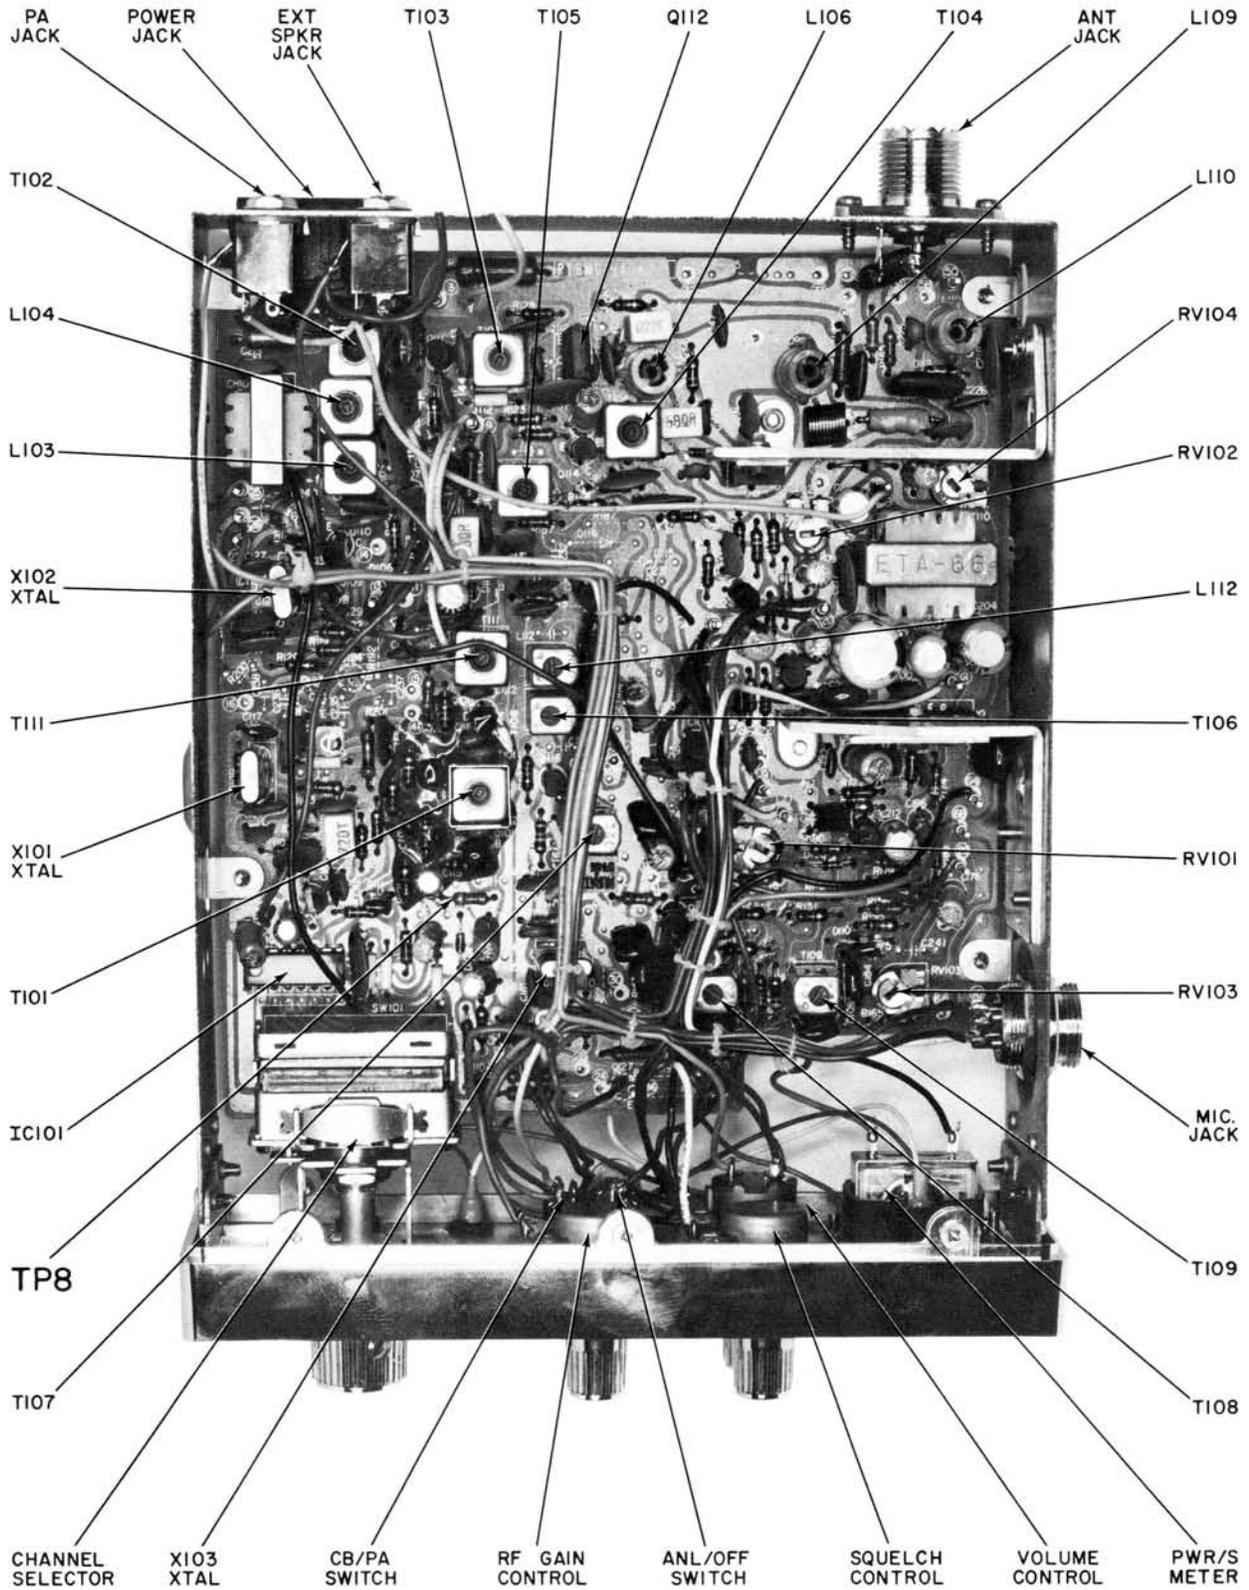
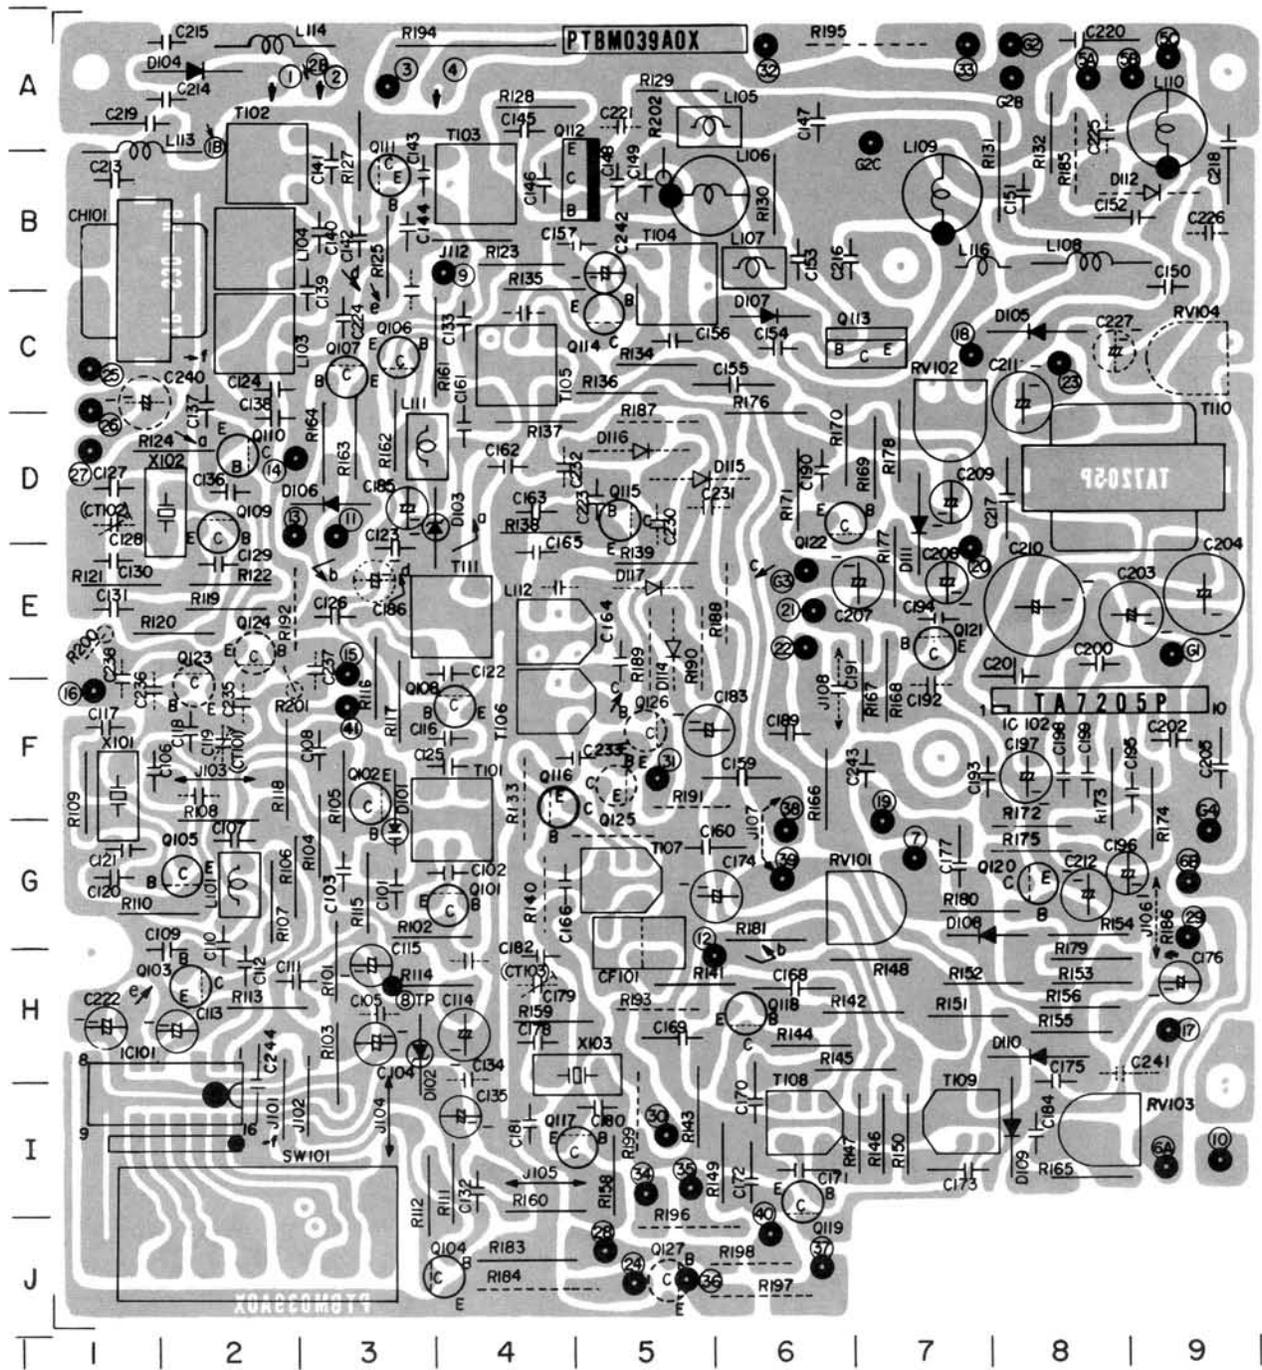

Figure 8 – Bottom (Component) View of Model 14T300
Figure 10 – Main Printed Circuit Board – 14T300 & 14T301
Figure 10 of the printed circuit board incorporate map grid coordinates at the sides of the illustration. These coordinates are keyed to corresponding key numbers in the replacement parts list, for instant location of smaller parts. Major components, not shown in Figure 10 are shown in views Figures 8 and 9. Exploded views identify all mechanical parts by means of balloon callouts. These balloons key to corresponding balloons shown in the mechanical parts list section.
- Connect DC Voltmeter, set to 5 V range, between ground and R114 high side at TP8, see Figure 8. (Meter input impedance should be 20k ohm/volt or higher).
- c. Refer to Figure 8 and adjust T111 (Buffer 3, Q108 output) and T104, T105, L112, T106, T108 and T109, in this order, for maximum audio output across the 8 ohm dummy speaker load. Keep reducing the generator input signal as adjustment is made to avoid inaccuracy due to AGC action. Make final adjustments at low input level. Repeat adjustment to achieve maximum alignment accuracy at low level, signal level at 1 uV or less.
- c. Adjust RV-101, see Figure 8, for maximum audio output on VTVM and scope connected across 8 ohm dummy speaker load. Note the output level. Slowly turn RV101 to decrease the output level by 60 dB, this will be indicated by a rapid cut-off of the audio output signal.
- b. Adjust RV103, see Figure 8, so that RF meter pointer reads "9" on the meter.
NOTE:—Location column is for grid coordinates shown on printed circuit board in Figure 10.